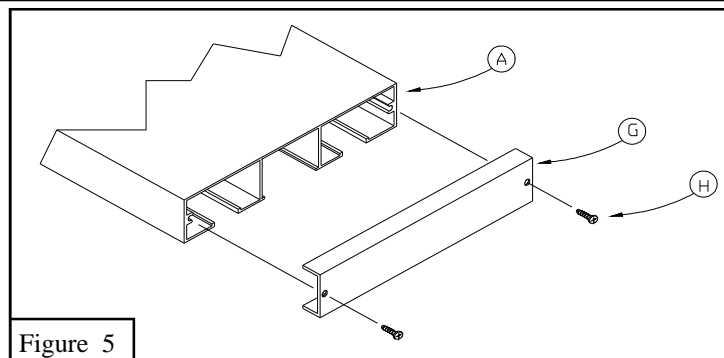

Figure 5
3. Install *Seat End Caps* (G) using #10 x 3/4" *Sheet Metal Screws* (H). See Figure 5.
3. Install *Seat End Caps (G)* using *#10 x 3/4" Sheet Metal Screws (H)*. See Figure 5.